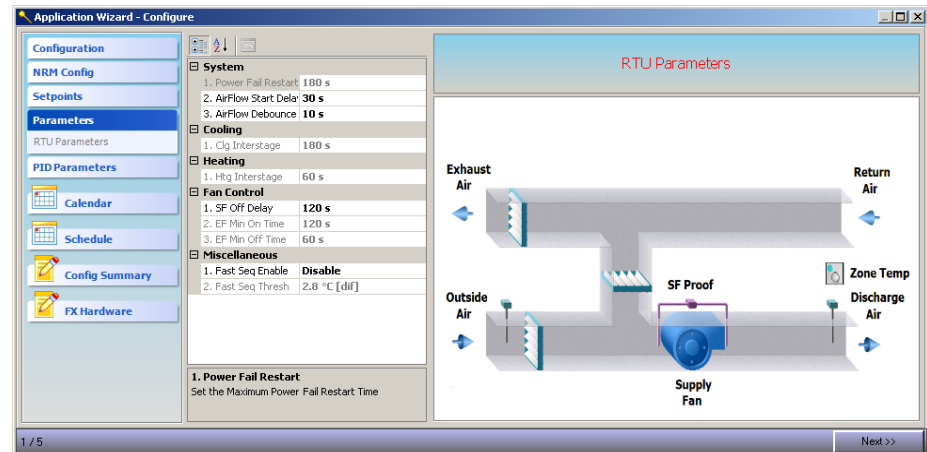

Figure 39: Parameters Plug-in
1. Click Parameters. The Parameters functions and values appear (Figure 39).